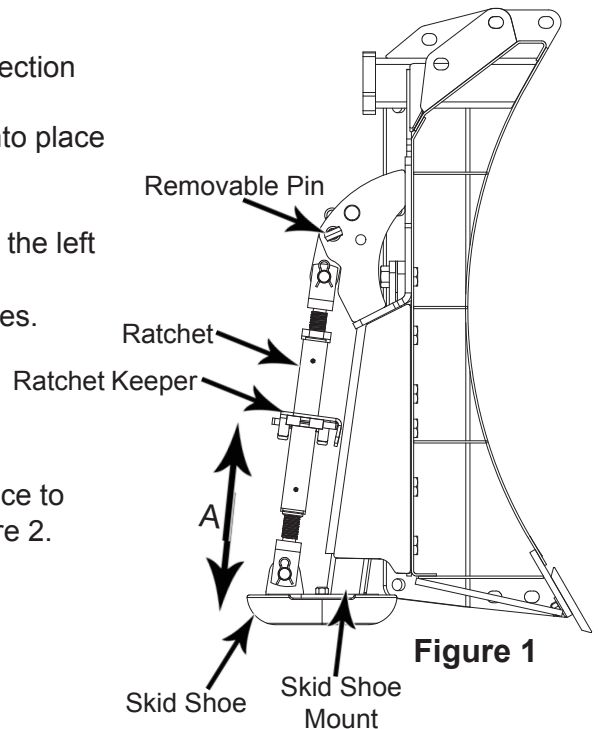

Figure 1
3. Use the ratchet to adjust the skid shoe up or down in the direction 'A' shown in Figure 1.